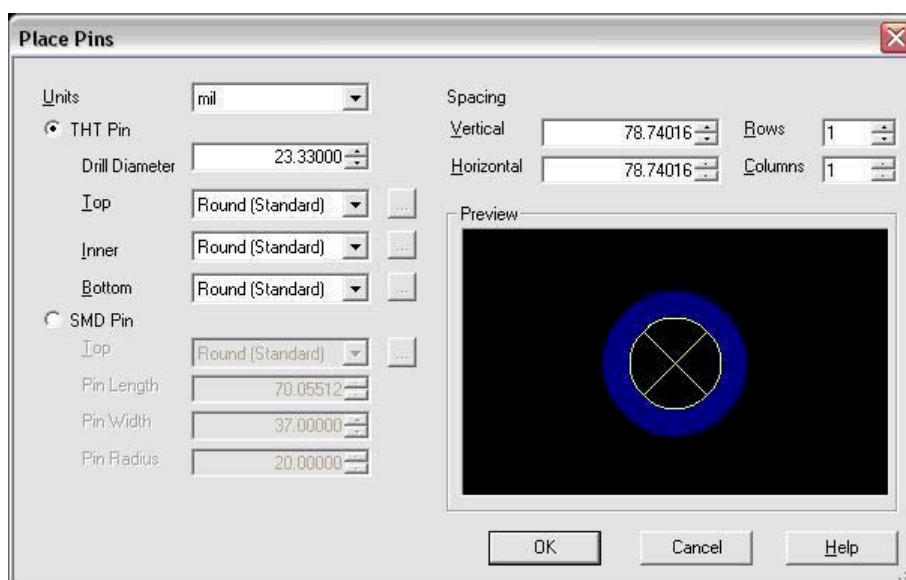

Figure 5 - Pin Properties Dialog
a.) Select **Place >> Pins**. This will display the Place Pins dialog box (Figure 5).